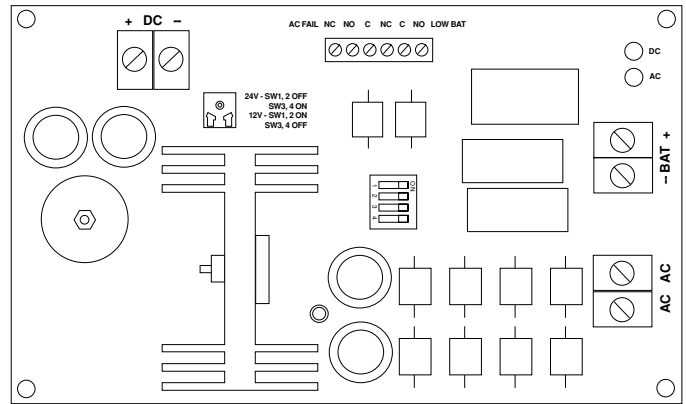

Fig. 1
2. Connect 28VAC / 175VA transformer to the terminals marked [AC, AC], (Fig. 1).
4. Connect devices to be powered to the terminals marked [+ DC -] (Fig. 1).
Connect battery to the terminals [- BAT +] (Fig. 1) as marked on the unit (battery leads included).
7. Connect supervisory trouble reporting devices to the outputs marked [LOW BAT, AC FAIL] supervisory relays marked [NC, NO, C] (Fig. 1).